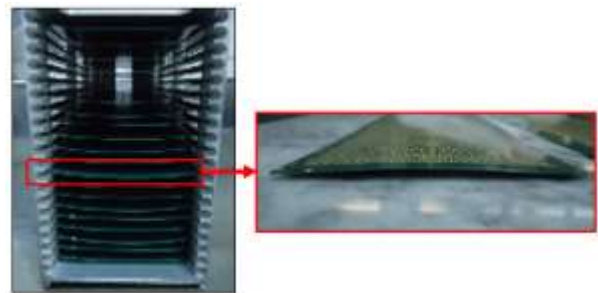

Fig. 3. Warpage of substrate strip.
- Substrate warpage were encountered after oven pre-bake using in-strip loading method at perforated magazine, as shown in Fig. 3